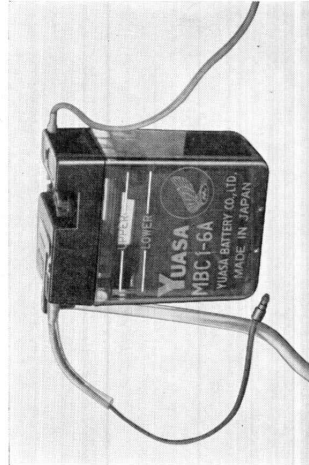

Figure 6-42. Battery
- a. Remove the battery box, disconnect the battery cable from the battery, unfasten the battery band and remove the battery. (Fig. 6-42) The standard battery used is the MBC 1-6. (Mfg. by Yuasa Battery Co.)